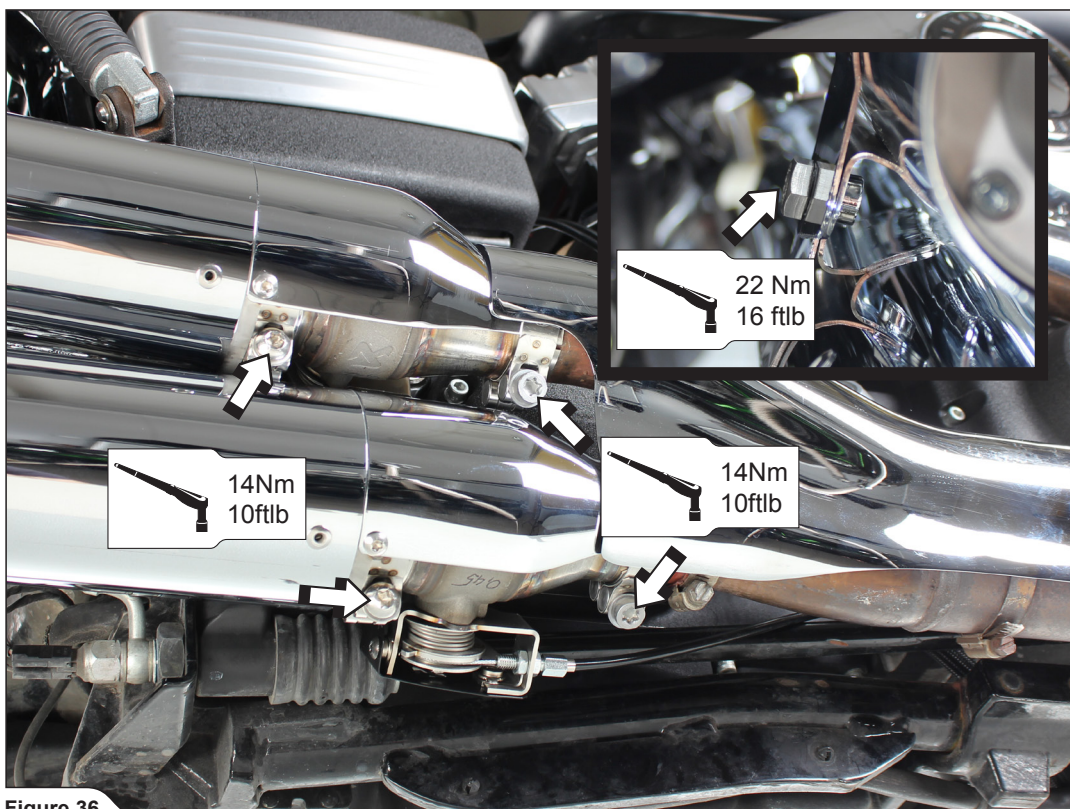

Figure 36
12. Align and tighten the clamps to the specified torque (Figure 36).